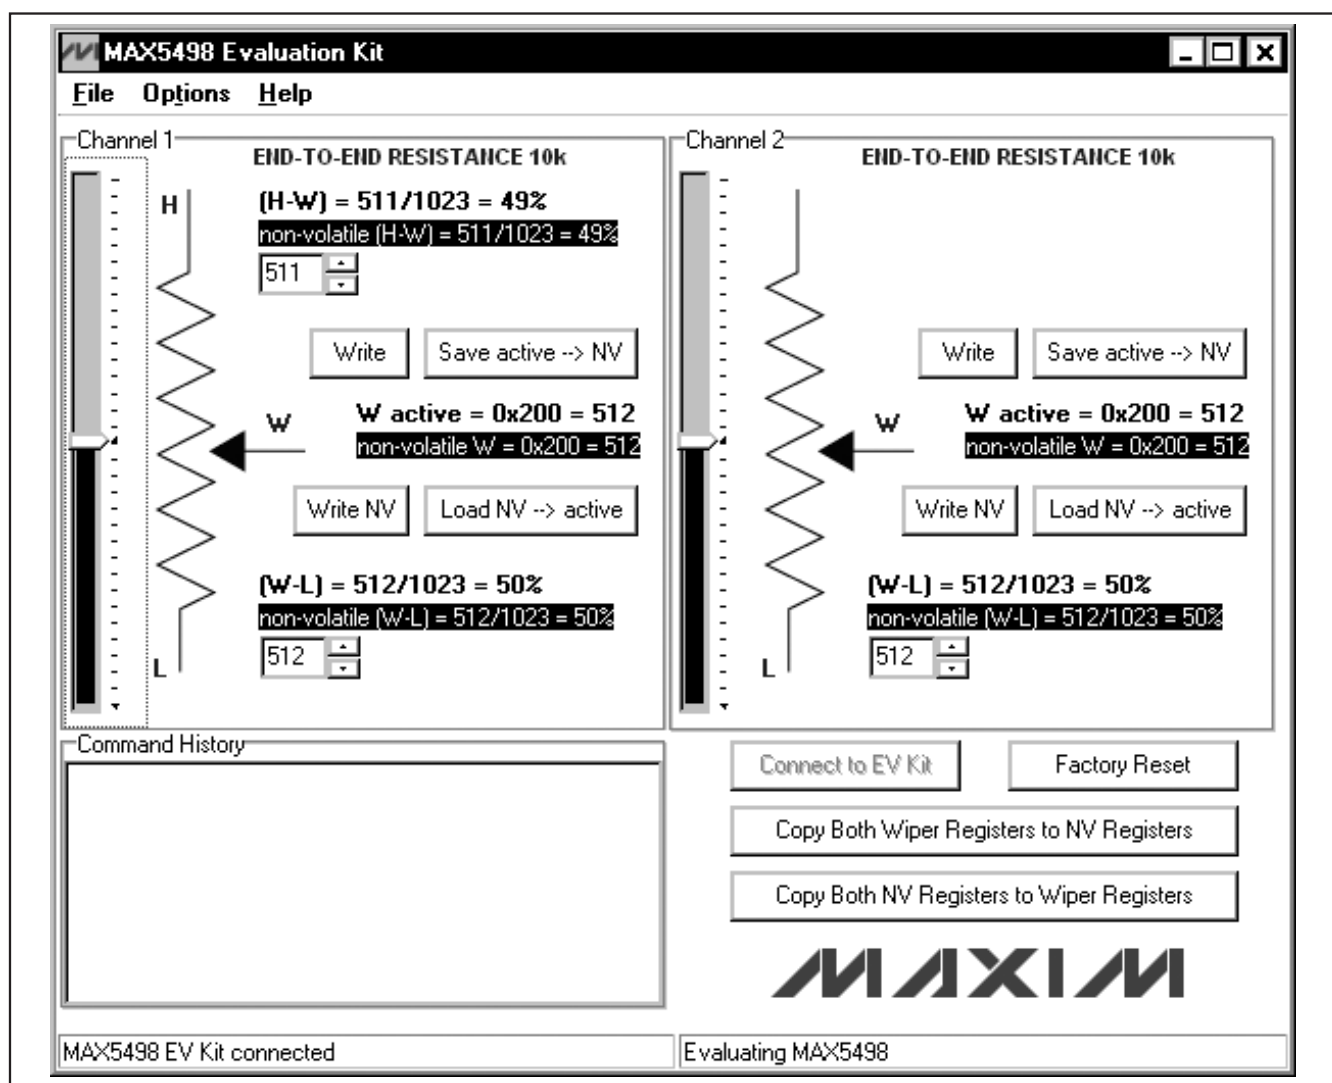

Figure 1. MAX5498 EV Kit Main Window
- 9) The software automatically searches for the MAX5498. After successful connection, **MAX5498 EV Kit connected** is displayed in the lower-left corner of the EV kit main window, as shown in Figure 1. Move the **Channel 1** or **Channel 2** track bars and press the **Write** button to set the wiper position.
The MAX5498 EV kit software graphical user interface (GUI) is a Windows program that provides a convenient means to control the MAX5498 (Figure 1).